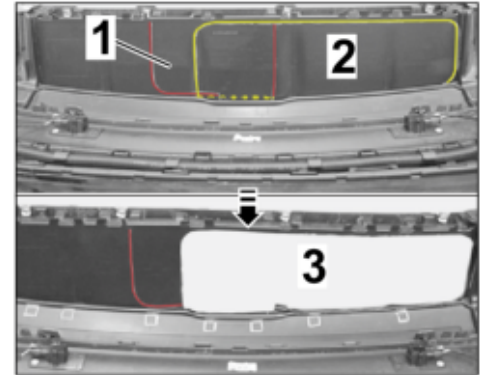

Figure 6
1.9.2 Mark the cut-out for the ball hitch (removable – USA) at the impression on the inside of the rear apron ⇒ *Figure 6 -top-*.
1.9.3 Carefully make the cut-out along the marking ⇒ *Figure 6 -bottom-*.